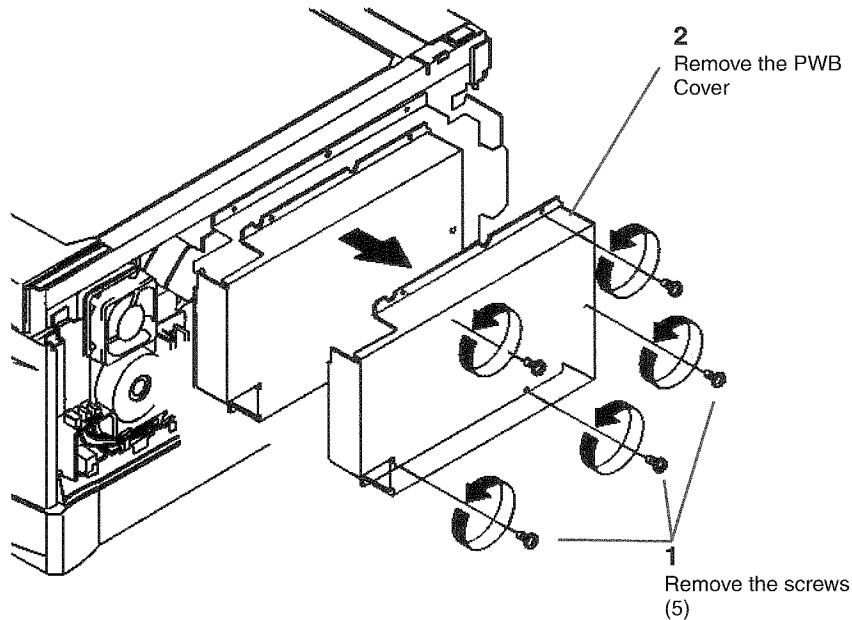

Figure 1 Removing the PWB Cover
2. (Figure 1): As appropriate, remove the Fax PWB Cover or the PCL PWB Cover.